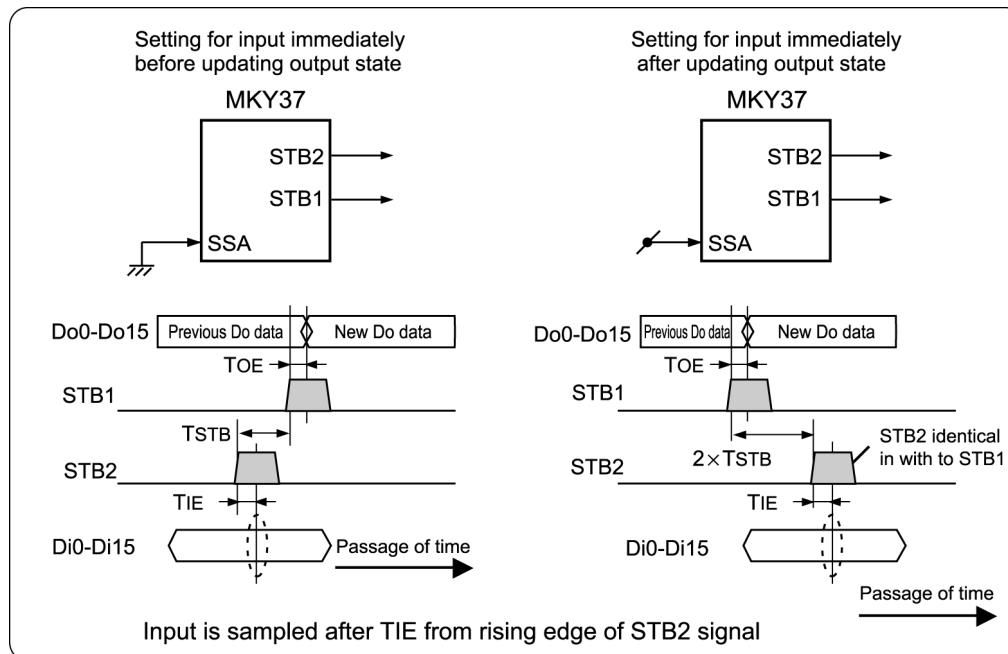

Fig. 4.4 SSA Pin Setting and Update Timing
- (1) To update state of output pin (Do) after sampling input state of input pin (Di).
- (2) To sample state of input pin (Di) after updating state of output pin (Do).
In the MKY37, the user can select the timing of strobe signals output from the STB1 pin and STB2 pin by setting the SSA (Strobe Select-A) pin (pin 52). This will enable to meet the two requests. The MKY37 performs the operation in (1) above when the SSA pin is set Low, and the operation in (2) above when the SSA pin is set High (Fig. 4.4).